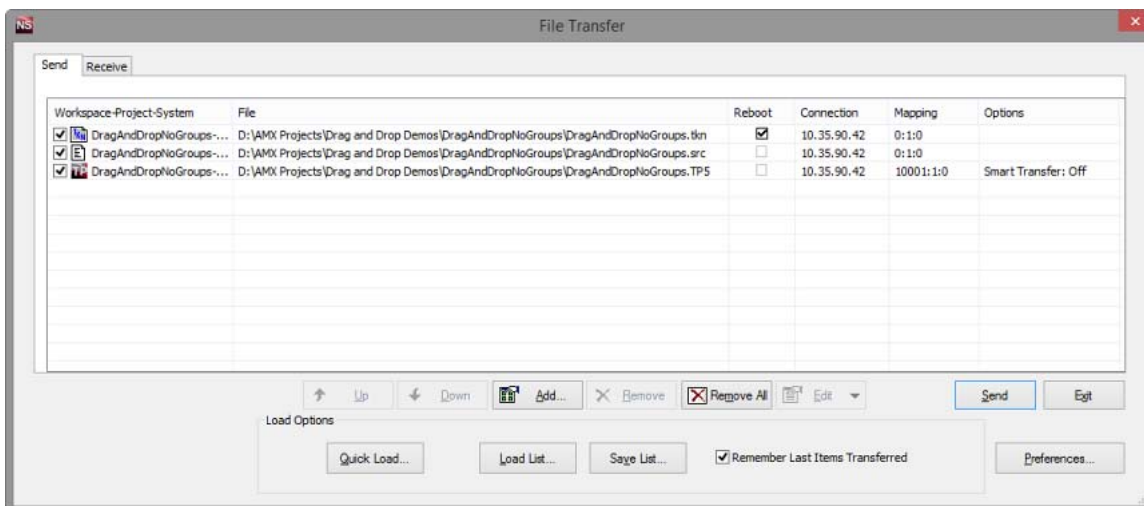

FIG. 243 File Transfer dialog - indicating files in the DragAndDropNoGroups.apw workspace queued for transfer
- e. Select **OK** to return to the *File Transfer* dialog (FIG. 243):